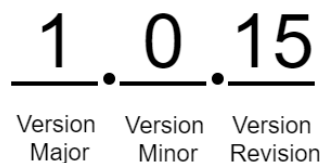

Figure 5-1: Example FW Version Format
- Bits 32 to 55 of the value contain the application revision numbers which define the FW version. The FW version is reported in the format as shown in Figure 5-1, which is shown using the example FW v1.0.15 (value 0x 01 00 0F).
- Bits 8 to 31 of the value contain the LoRa Basics modem version numbers. The format is the same as shown in Figure 5-1. This number is not to be confused with the LoRaWAN specification version according to the LoRa Alliance standards. The LoRaMAC version number is the version of the FW used by the LR1110.
- Bits 0 to 23 of the value contain the BLE stack version numbers. The BLE stack is the SW published by Bluetooth and not developed by TEKTELIC. The version is reported in the format as shown in Figure 5-1.